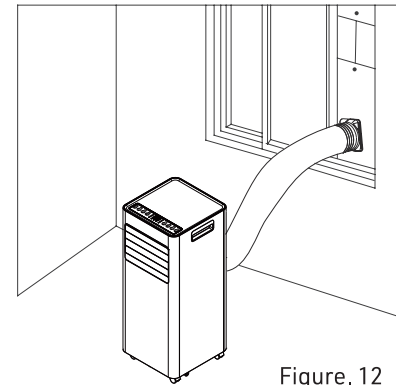

Figure. 12
- 2.) Insert the air exhaust hose into the window sealing plate, adjust opening width of window so that the window can match with the sealing plate properly, length of the sealing plate is adjustable. (as shown in Fig. 12 and Fig. 13)